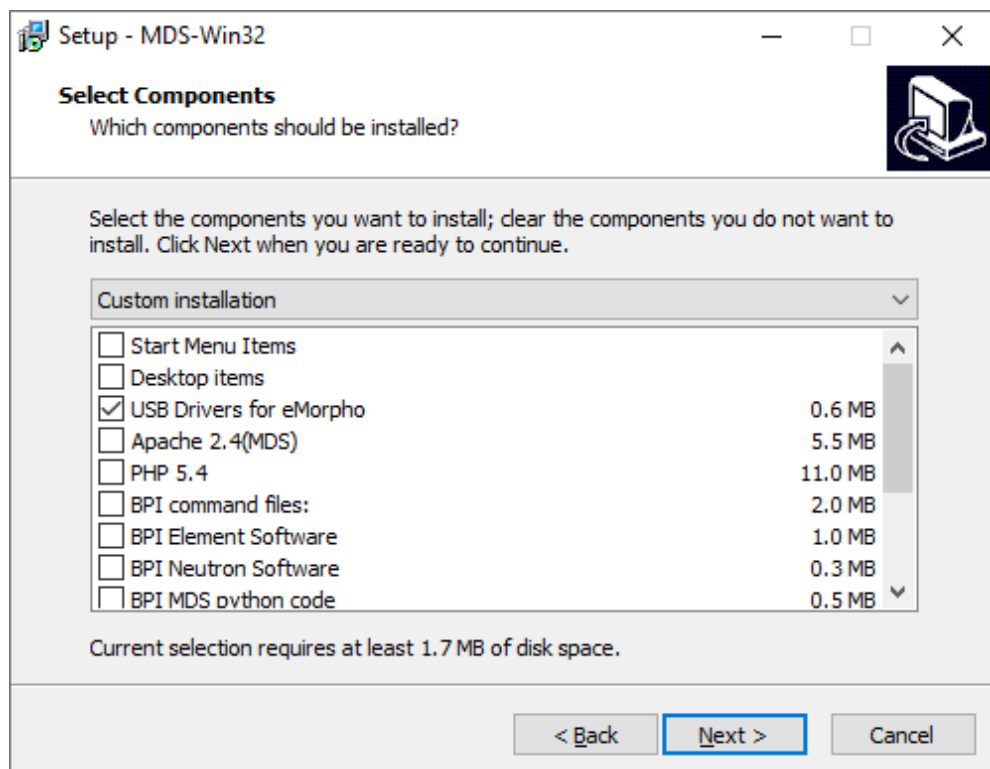

Figure 1.3: Select component USB Drivers for eMorpho for installation.
- iii. Open \Software\Driver\ folder in USB drive, run installation file **BPI-MDS-2.0.14.exe**. Follow the Setup Wizard as shown in Figure 1.1-1.2, accept all the default settings, and click “Next”. As shown in Figure 1.3, uncheck all the components but keep the “**USB Drivers for eMorpho**”, and then complete the Setup Wizard.
Fig. 1.4 shows user interface from *GammaAcq* when the software runs for the first time a few seconds after the NaI gamma detector has been connected to the PC. When the *GammaAcq* software is started, the run time is shown in the “Real time” window (see ③ in Fig. 1.3); even though no gamma counts are displayed in graph ②.